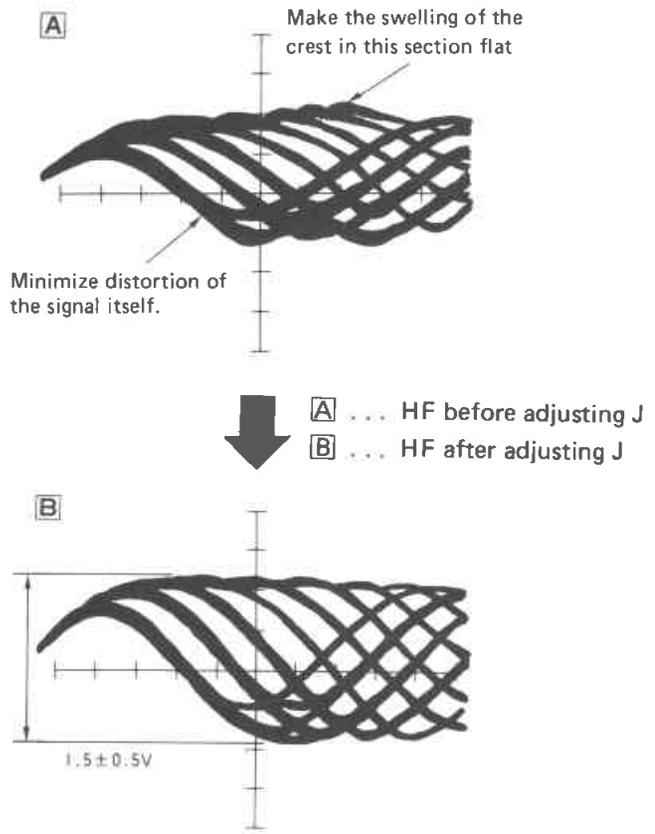

Fig. 14
Turn the J-direction adjusting screw so that HF signal shown in Fig. 14 is changed from state A to B.
- 10) Press the **STOP** key of the control unit and then press **CD** again to play back Track No. 1. Confirm that the level of HF signal at Track No. 1 (Inner circumference of the disc) is within $1.5 \pm 0.5V$ and that HF signal is clear as shown in Fig. 14- **B**.